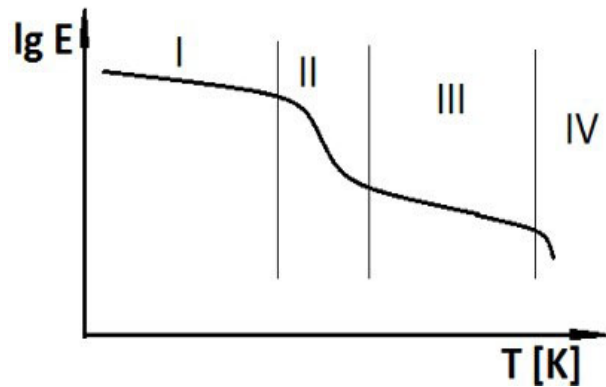

Figure 11. Schematic temperature dependence of Young's modulus for an amorphous thermoplastic material © Anders Persson, University of Borås
Thermoplastic polymers, as their name indicates, are highly sensitive to temperature and go through a number of stages as illustrated in figure 11. At low temperature, indicated by I in the figure, is the glassy state, II – the transition zone with T_g at the inflection point, III – the rubbery plateau and finally IV – the viscous zone. Each material has its characteristic figure 11-type curve and there are also structural and morphological factors that alter its appearance. Higher molar mass extends zone III to higher T. The drop of E in the transition zone, which for an amorphous polymeric material is about 1000 times, is less and less pronounced with increasing degree of crystallinity. A similar pattern is seen with increasing degree of cross-linking.
The pattern seen in Figure 11 may actually also be attained by exchanging the temperature for loading time. This is a manifestation of viscoelasticity and is based on the fact that deformation depends upon conformational rearrangements and with time the likelihood that the polymers will move in a way that releases stress. Accordingly harmonic loads of different frequencies will follow a similar pattern since frequency is reciprocal time, i.e. low frequency is equivalent to long loading time.
A polymeric material that has reached the viscous state, zone IV in Figure 11 has lost its mechanical integrity and is now considered a fluid with mainly viscous behaviour. The Kelvin-Voigt and Maxwell models are still valid but with significantly shorter relaxation times than in the solid state. Hence it is more relevant to use a purely viscous fluid as a starting point, i.e. a model with only a dash-pot and also to emphasise shear flow rather than tensile. The stress-deformation behaviour depends on the shear rate, $d\gamma/dt$, a fluid experiences in accordance with equation (10).